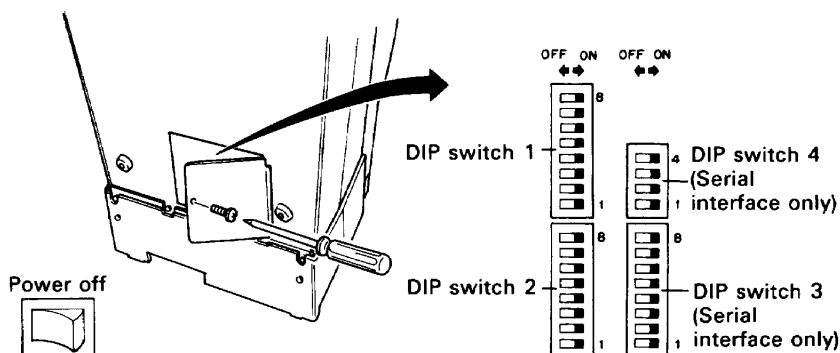

Fig. 6-1 DIP switch array
- ③ Adjust the DIP switch 2-4, roll paper holder and adjust lever position according to the width and thickness of the roll paper that is used.
- Refer to Fig. 6-1 in regard to the position of the DIP switch.